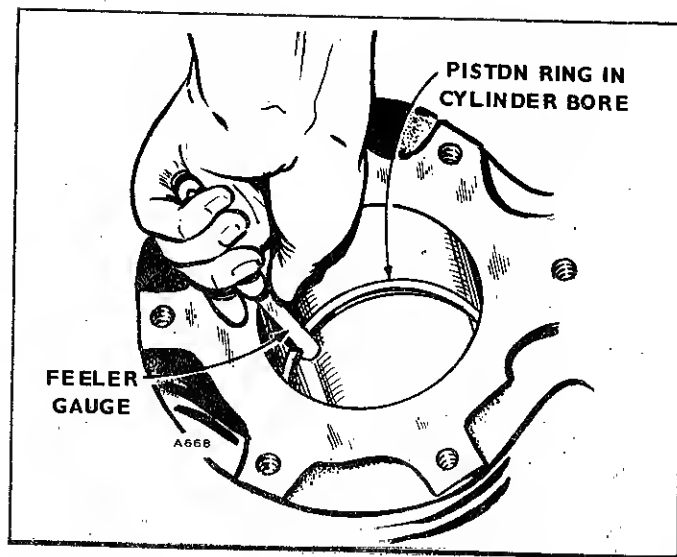

FIGURE 62. CHECKING RINGS
**Rings:** Inspect each ring carefully for fit in the piston grooves and seating on the cylinder wall. Fit each ring to the cylinder wall at the bottom of its travel, using a piston to square the ring in the bore. Check the end gap with a feeler gauge (Fig. 62). It should be .010" to .020". If the gap is too small, file the butt ends of the rings. Don't use rings that need a lot of filing, they won't seat right on the